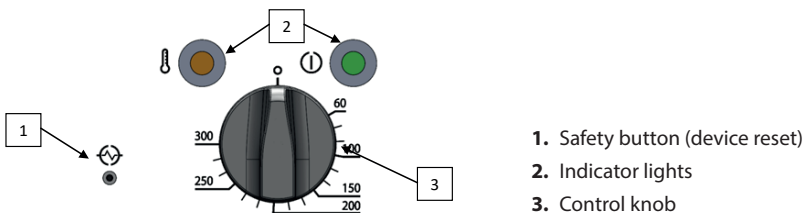

Figure 16. Device controls
- Before connecting power, the control knob (Fig.16 Pos. 3) should be set to “0”.
- To switch on, turn the knob to the right and set the maximum temperature. Both signal lights will turn on. The green one indicates that the device is working, the orange one means active heating and goes out when the target temperature (set by the dial fig.16 pos. 3) is reached. When the hob temperature falls, the unit re-energizes the heater until the preset temperature is reached.
- The device is equipped with a safety mechanism that will automatically cut off the power if the nominal operating temperature is exceeded. After removing the cause of the malfunction and cooling the hob, press the safety button to continue working with the appliance (Fig. 16 Pos. 1).
- To switch off the unit, turn the knob (Fig.16 Pos. 3) to “0” counterclockwise (the green indicator light will turn off) and disconnect power supply. After work, wait for the temperature of the appliance to fall and then wash it and remove any leftovers from the drawer. Do not wash the heating hob with detergent, as this can lead to rust. Finally, wipe the hob dry with a soft cloth or paper towel.